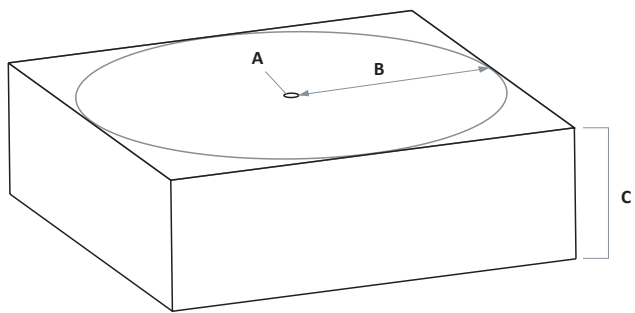

Figure 3 - Anchor Installation Minimum Edge Distance
- 1. Using the proper hammer drill and 1" bit, drill a 1" diameter hole at least 4.5" deep into the concrete and at least the minimum edge distance for the given concrete dimensions described in Figure 3. Hole must be straight and perpendicular to concrete surface.
A	Using the proper hammer drill and 1" bit, drill a 1" diameter hole at least 4.5" deep into the concrete and at least the minimum edge distance for the given concrete dimensions described in Figure 3. Hole must be straight and perpendicular to concrete surface.